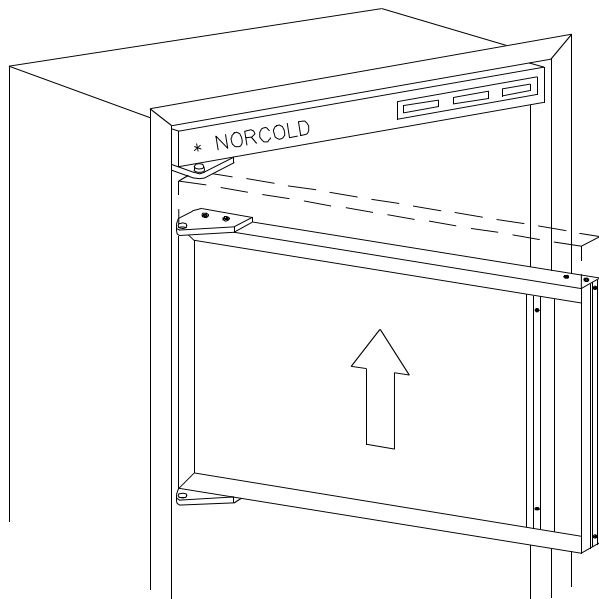

Figure 18
10. Reposition the upper door in a similar manner as described in Step #9, except the top of the door must be engaged into the hinge pin shoulder before setting the door in place. (See Figure 18)